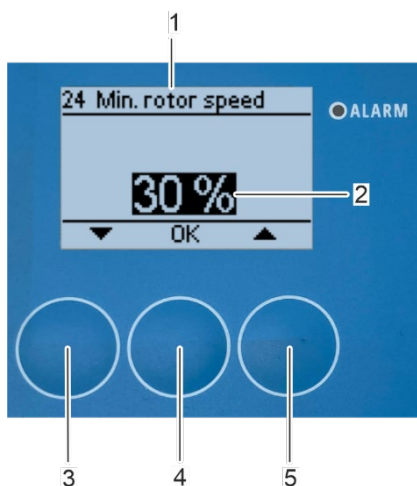

Fig. 133: Set minimum rotor speed
⇒ The "24 Min. rotor speed" submenu appears on the display (Fig. 133/1).
3. Set the minimum rotor speed (Fig. 133/2) with the arrow keys [up] (Fig. 133/5) and [down] (Fig. 133/3).
4. Confirm the setting with [OK] (Fig. 133/4).